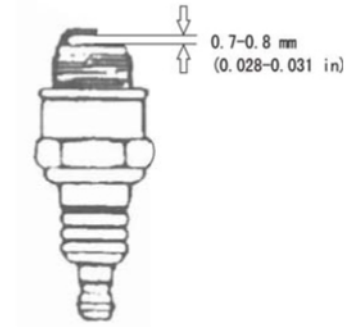

Figure 17 - Measuring the Spark Plug Gap
4. Measure the spark plug electrode gap with a gauge. The gap should be 0.028-0.031 in (0.7-0.8mm). (See Figure 17.)